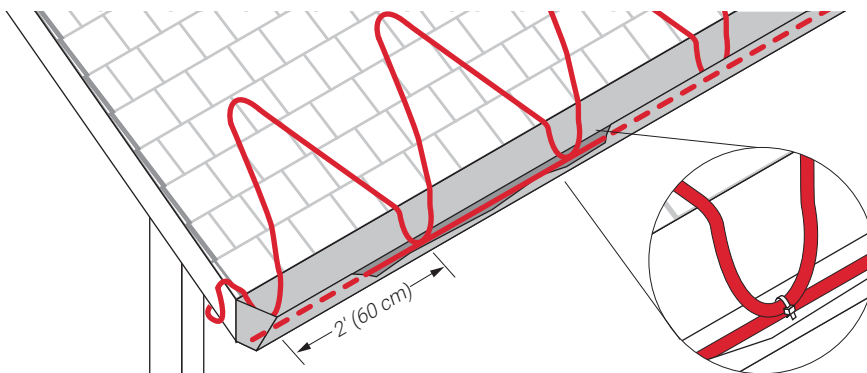

Fig. 7 Layout in a zig-zag pattern
For sloped roofs, ice dams may form at the roof edge. To maintain a continuous path for melt water runoff, route the heating cable in a zig-zag pattern as shown in Fig. 7 and follow the appropriate attachment recommendations in "Step 6 Select attachment accessories and method". Additional heating cable may be needed for other gutters, downspouts, and valleys.
- Install the heating cable on the roof in a zig-zag pattern as shown in Fig. 7.
**Note:** Attachment methods are not shown in Fig. 7. For attachment methods, proceed to "Step 6 Select attachment accessories and method" on page 21.